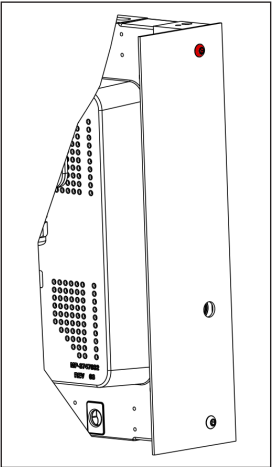

Figure 6: Remove Machine Screw
1. Use a 1/4" T-25 hex bit (TH-1118) to remove the M5-0.8 x 10 mm machine screw (Daktronics part number HC-3809581) above the panel mount location and set the screw aside for **Step 2**. Refer to **Figure 6**.